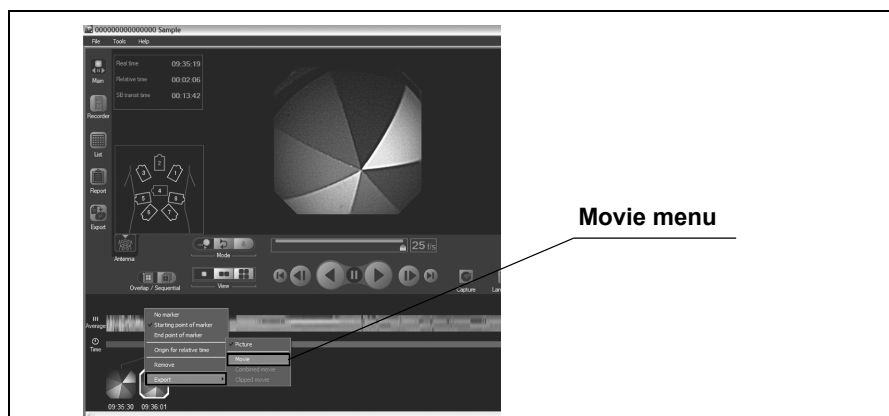

Figure 6.111
5. To create movies, right-click on one of the selected thumbnails and select “Movie” from the context menu (see Figure 6.111).